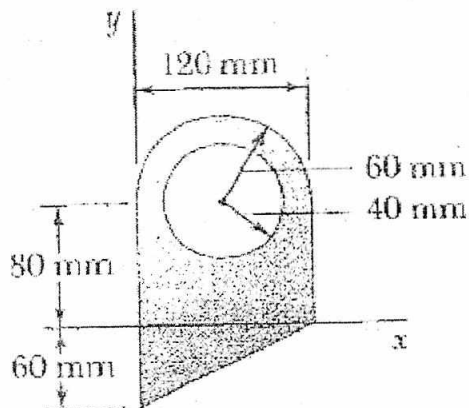

Fig. 1
- Determine the centroid of the object shown in Fig. 1